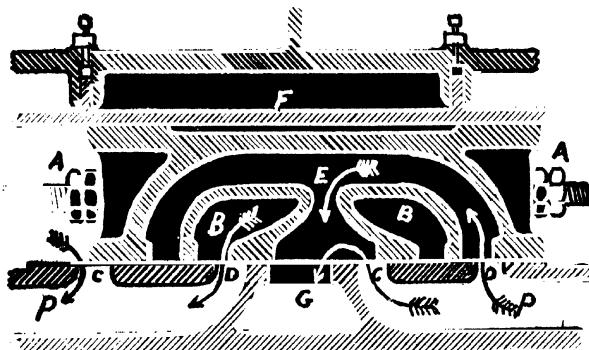

FIG. 71.—DOUBLE-PORTED BALANCED VALVE.
**The Double-ported Balanced Valve.**—The distinctive feature about this valve as illustrated in Fig. 71 is that it has two openings, C and D, to each steam port. The valve also has two passages, B and E, which extend through it and communicate with the steam chest A. In the position shown in the cut the valve is opening the left steam port. The steam enters the passage C past the edge of the valve and also enters the passage D through the opening in the chamber B, meanwhile the exhaust is escaping from the right port into the chamber E and exhaust port G at the same time it is escaping through the passage C into the